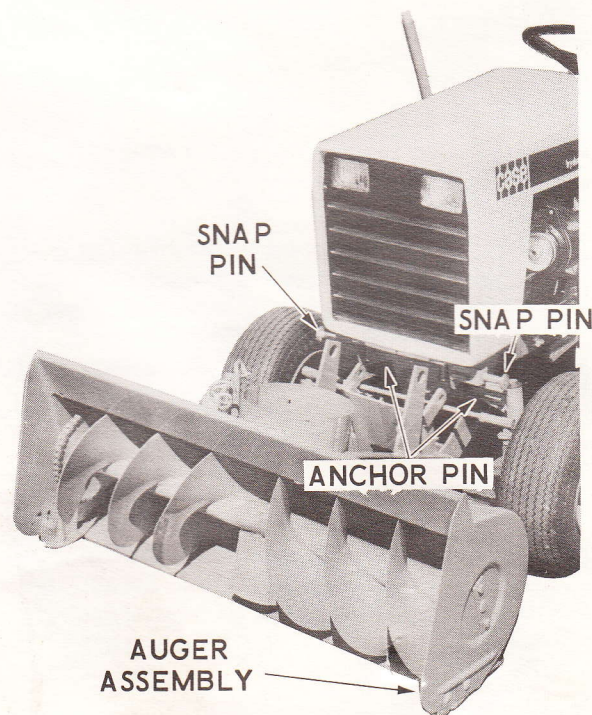

Figure 11.
1. See Figure 11. Position the auger assembly so the tractor can be lined up with the mounting brackets.